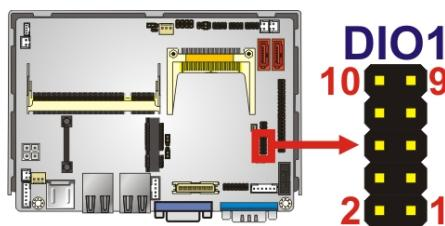

Figure 3-6: Digital I/O Connector Location
**CN Label:** DIO1**CN Type:** 10-pin header, p=2.0 mm**CN Location:** See **Figure 3-6****CN Pinouts:** See **Table 3-7**